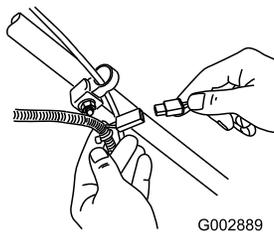

Figure 19
1. Connect the charger to the mower wire harness located below the ignition key (Figure 19).